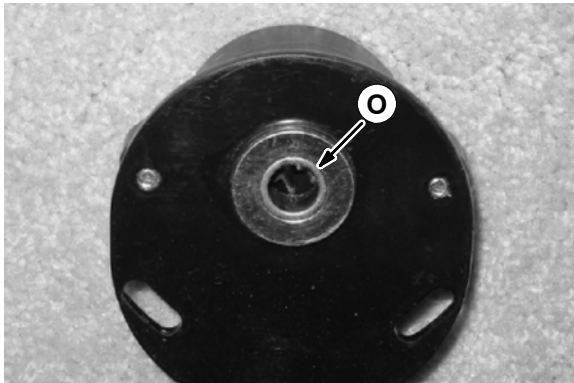

FIG. 5
5. Remove the sensor mounting plate (with the sensor still attached) from the pedal assembly. Be sure the bushing (O) stays in the sensor bore. Refer to Fig. 5. If the bushing stays on the shaft, remove it and replace in sensor bore.